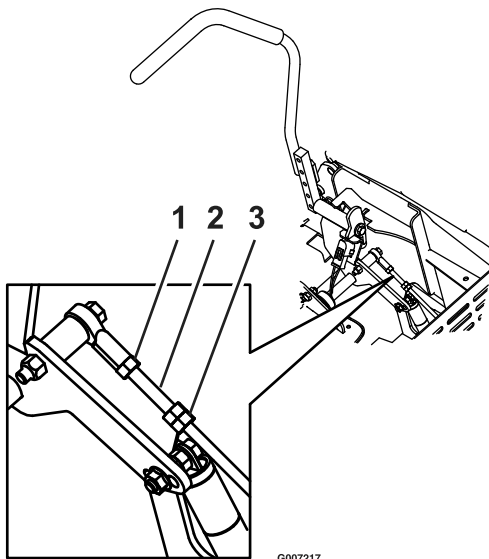

Figure 14
- To adjust each linkage, loosen the jam nut next the ball joint at the upper end of the linkage rod assembly. Then rotate the assembly using a wrench to turn the double nuts on the assembly (see Figure 14).